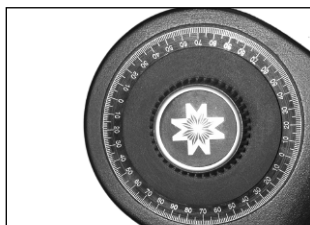

Fig. 17: Altitude lock and setting circle.
Alternate method: Level the optical tube: Line up 0° on the Altitude setting circle (**Fig. 17**) with the triangular pointer.
3. Tighten the Altitude lock (**Fig. 17**) to a firm feel only.